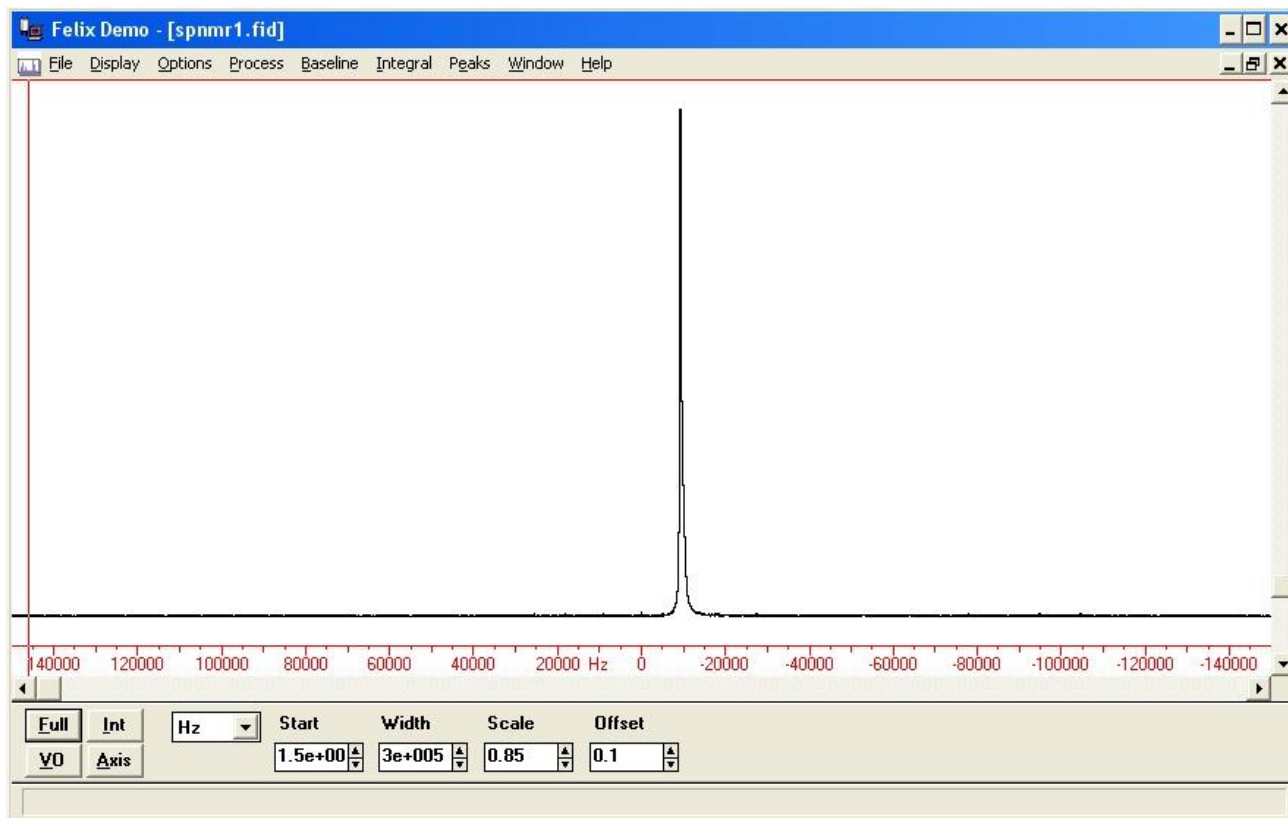

Figure 12: Typical NMR spectrum in a low-resolution low-field magnet. All parameters identical to the previous figure.
5. In most instances, you will also perform a Fourier transform on the resulting NMR signal. The FFT of the signal acquired in Figure 11 (previous page) is presented in Figure 12, below.